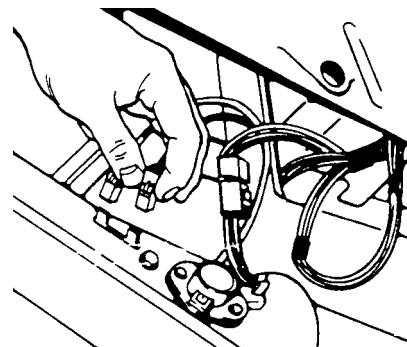

Fig. 24
2. Remove the three (3) blower housing screws.
4. Disconnect wires from thermal fuse, operating thermostat and bias heater. (Fig. 24)